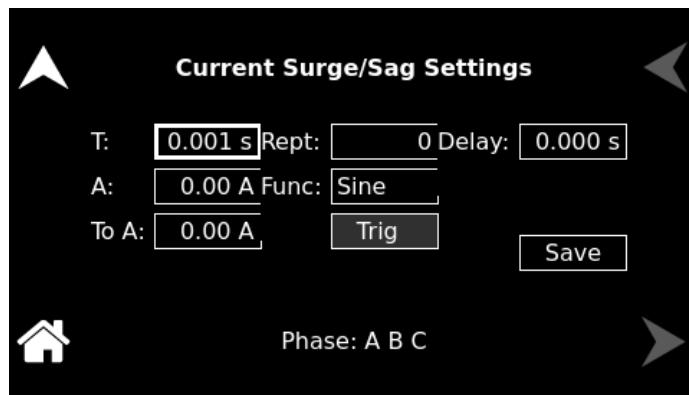

Figure 8-23: Current Surge/Sag Settings
5. Tap the CURRENT SURGE/SAG selection button, refer to Figure 8-23. Enter the following parameter values: